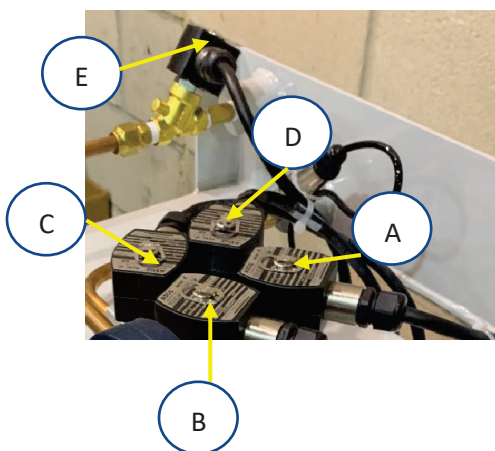

Figure 8-9: Control Valves
5.	<p>Check the Control Valves</p> <ul style="list-style-type: none"> Control Valve Operation Check – See Figure 8-9. Check the operation of the control valves (A thru E) to see if any of the control valves have malfunctioned. A malfunctioned control valve may cause the Vacuum Pump motor to trip out on thermal overloads. Purpose of the Test <ul style="list-style-type: none"> The purpose of this test is to check to see if there is power at the control valves and the control valves are working properly. This test is also used for the Leak Test. Preparation <ul style="list-style-type: none"> Make sure power is ON to the VST Control Panel. At the Main Screen, push the Maintenance button to access the Password Screen. Enter the password 878 to access the Maintenance Screen. The GREEN MACHINE is now in the OFF mode and will not operate. Push the Clear Motor Alarm button to reset the motor alarm. Without resetting the alarm, you will not be able to do the next step.